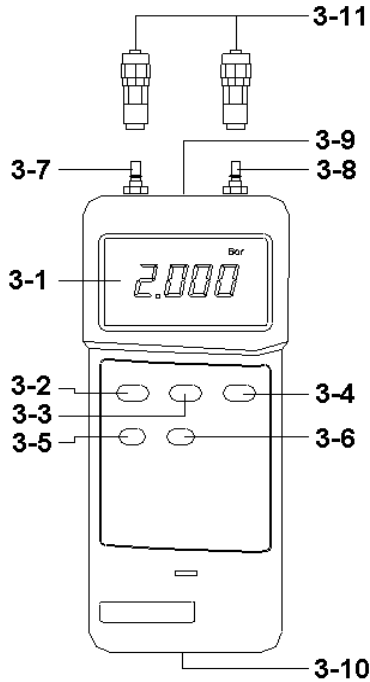

Fig. 1
- 1) Power on the meter by pressing the " Power Off/On Button " (3-2, Fig. 1).
- 2) Select the desired temperature units (mbar, psi, Kg/cm^2 mm Hg, inch Hg, meter H_2O inch H_2O Atmosphere) by pushing the " Unit Button " (3-6, Fig. 1).
Adjust the display reading to zero value by pushing the " Zero Button " (3-4, Fig. 1)
- 4) Install the measuring pipe to " Plug/quick coupler " (3-11, Fig. 1).
Connecting the pipe along the " Plug " (3-11, Fig. 1) to
- a. " P1 input socket " (3-7, Fig. 1) only
- b. " P2 input socket " (3-8, Fig. 1) only
- * During the measurement, pressing the " Hold Button " (3-3, Fig. 1) will freeze the measured value & the LCD will show " HOLD " symbol.
- * The DATA RECORD function displays the maximum and minimum readings. To start the DATA RECORD function, press the " MAX./MIN. Button " (3-5, Fig. 1) once. " REC " symbol will appear on the LCD display.
- (a) Press the " MAX./MIN. Button " (3-5, Fig. 1) once, the " Max " symbol along with the maximum value will appear on the display.
To de-activate this feature, Select the memory record function during measurement, by pressing the " MAX./MIN. Button " (3-5, Fig. 1).
The instrument features an RS232 output via 3.5 mm Terminal (3-9, Fig. 1).
- 2) Slide the Battery Cover (3-10, Fig. 1) away from the instrument and remove the battery.